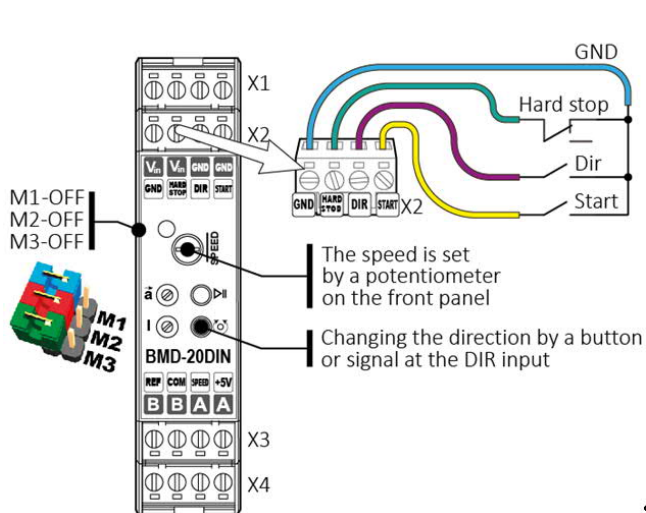

Fig.10. Speed control with internal potentiometer.
- 3) Connect the control elements to the controller according to chosen speed adjusting method as shown in the figures 10 – 15.